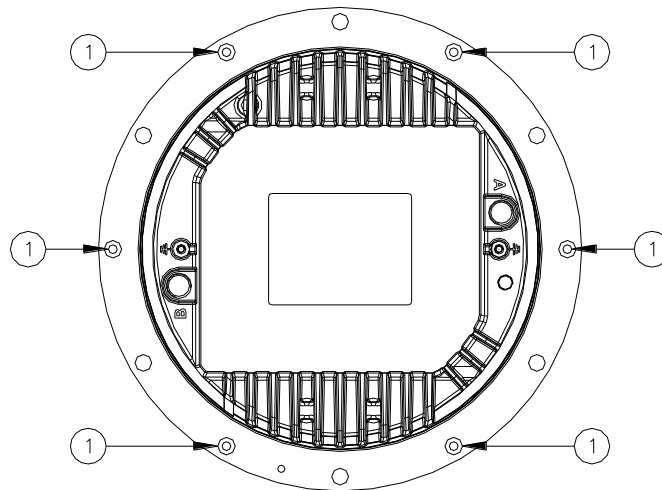

Figure 16 - Lower Cover Fixing Screws
- Open the fixture by unscrewing the six locking screws HSFH M5x10 (Figure 16 - n°1).
- six locking screws HSFH M5x10 (Figure 16 - n°1);
Verify the correct position of the two O-Ring between dome and lower cover (Figure 18 – n°2 and 3); mount the lower cover on the dome and fasten it by means the six screws HSFH M5x10 (Figure 16 - n°1). One drop of anaerobic adhesive lower type (e.g. LOXEAL 24-18) should be applied to the screws before installation; tightening torque is 2.5 Nm.